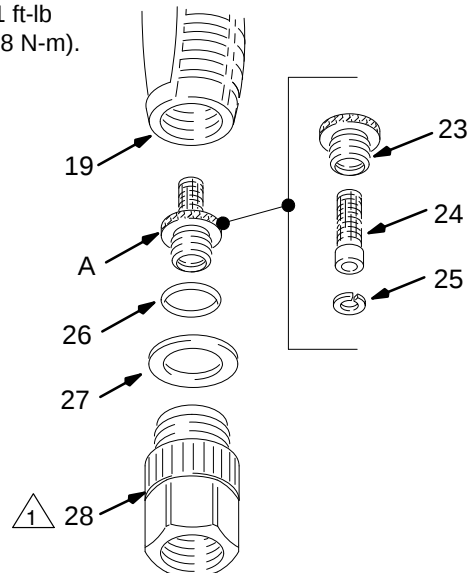

Fig. 6
Relieve pressure first. Remove the swivel (28) and pull out the strainer (A). Clean the filter in mineral spirits, being careful not to damage the strainer element. Assemble as shown and torque the swivel to 19 to 21 ft-lb (26 to 28 N-m). See Fig. 6.